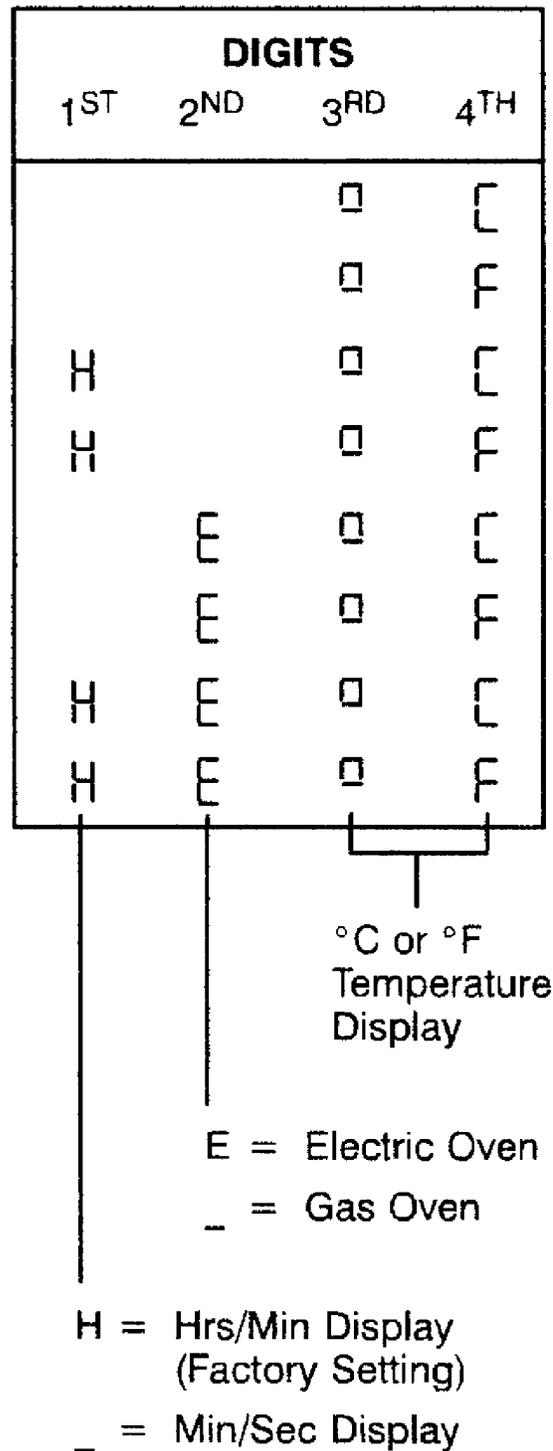

Figure 5-3. Display Scale Examples
2. The control displays the current setting from the following menu. See Figure 5-3. This menu controls 3 separate parameters: